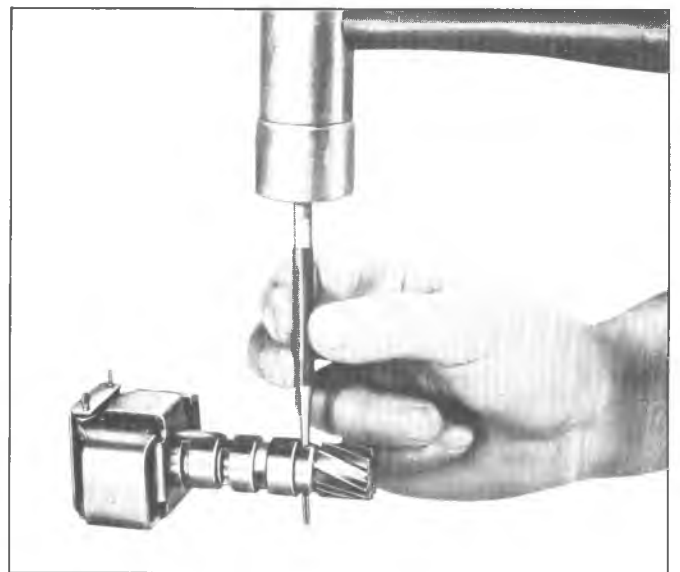

Fig. 49T-Removing Governor Gear Retaining Pin
1. Drive out governor gear retaining split pin using small punch (fig. 49T).